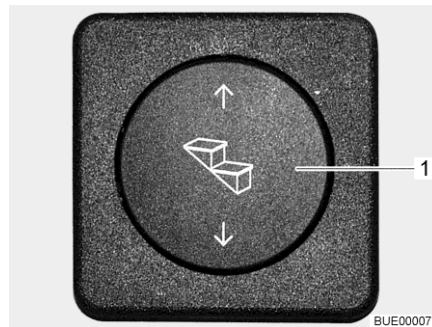

Fig. 4 Rocker switch for entrance step
- Extending:** ■ Press the rocker switch (Fig. 4,1) down until the entrance step has extended completely.
- Retracting:** ■ Press the rocker switch (Fig. 4,1) up until the entrance step has retracted completely.